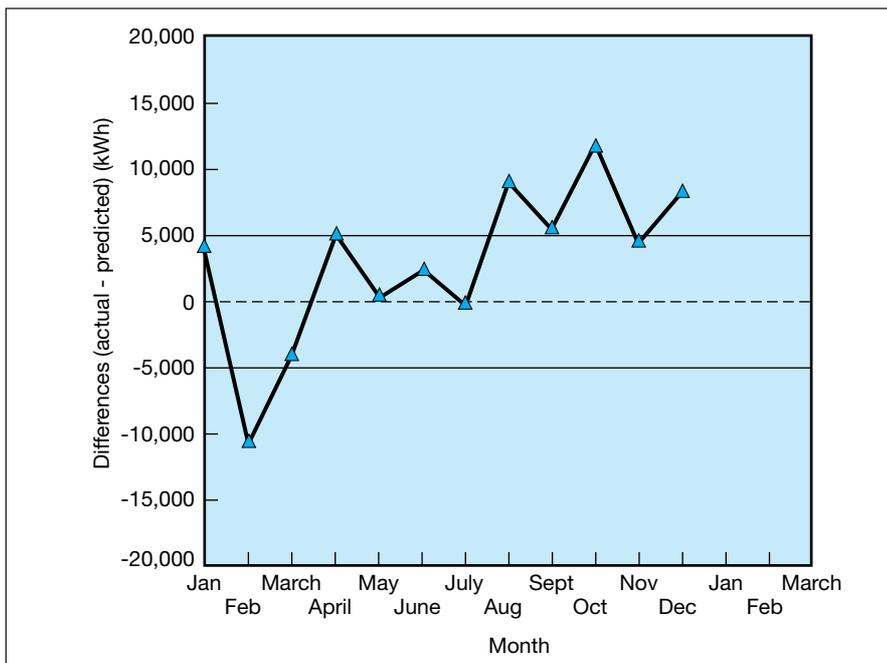

Fig 15 A control chart showing differences between actual and predicted consumption
15. Calculate the differences and set up a control chart showing differences between actual and predicted consumption (Fig 15).
This formula was used to calculate the control chart in Fig 15. This control chart shows a low consumption in February and then differences close to the lower control level between January and June, and close to the upper control level from July onwards.
Since we have access to the separately metered data for this example, we can verify what the analysis has found. The low energy use in February is known, from the separately metered supplies, to be an unexplained one-off event in the process. The change in July, that affected all the months after this date, is known, from the separately metered supplies, to be an event concerning space heating energy use. The prediction after this event was therefore low by 2,500 kWh per month, which caused the whole period after July to lie outside of the control band in Fig 15.